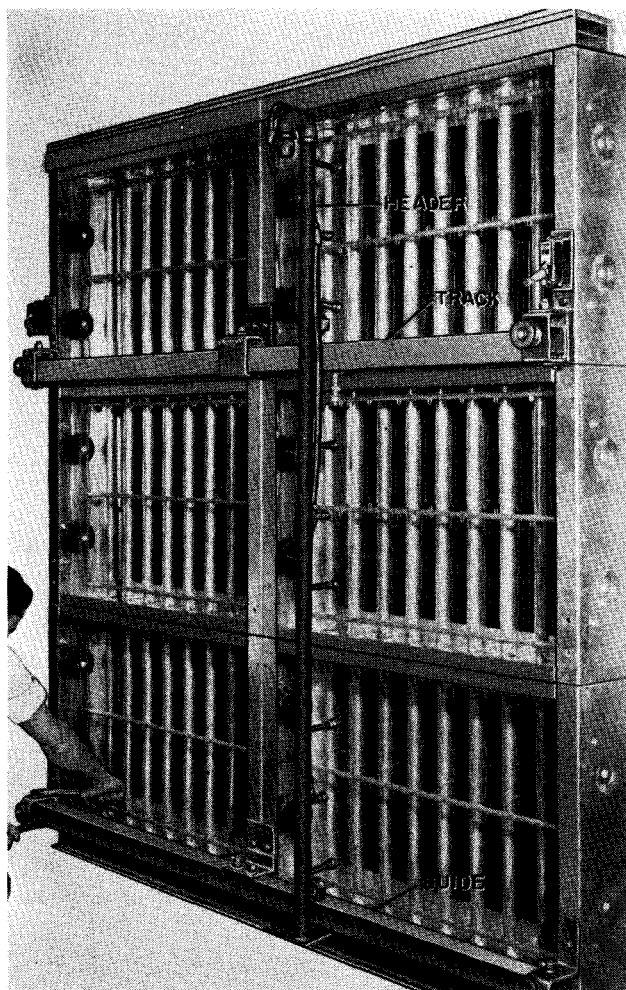

Fig. 15. Typical Mounting of Tracks
Install the upper track sleeves and track loosely. See Fig. 15. If the duct walls butt closely to ends of track, insert the top roller of the spray header in one section of track before installing this section. See Fig. 15. Check track for alignment
Next install the lower guide. See Fig. 15. Move spray header horizontally along track, holding it
**Limit Switches** (supplied with tracks) should be wired as shown in Figs. 15, 29 & 30.